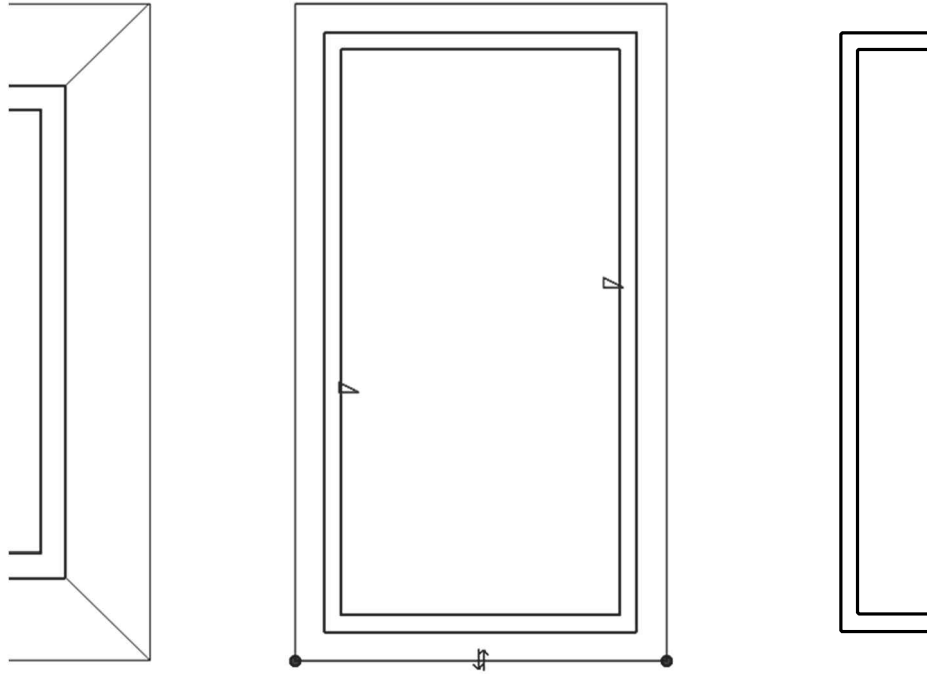

FIGURE 6-1.5 Gable – plan view
21. Select the remaining two walls (Figure 6-1.5).